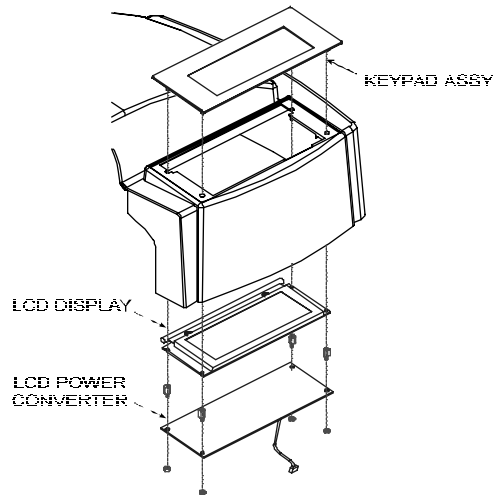

Figure 5-3. Keypad and Display Installation/Removal.
2. Turn the Right Cover Assembly over and disconnect the Display power cable located at J13 from the Display Power Converter. With a 1/4" socket or wrench, remove the four kepnuts securing the Display Power Converter. See Figure 5-3. Remove the Display Power Converter.